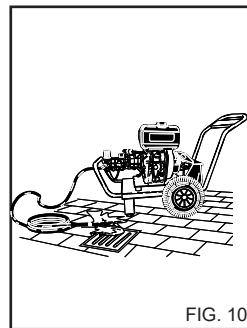

FIG. 10
Impurities could block the nozzle and cause malfunction (fig.10).
- 4) After using with detergent, flush out the intake circuit; place the detergent suction hose (fig. 10) in a tank of clean water and let the pump run for 1 minute with the dosing tap turned fully on and the lance in detergent delivery condition.